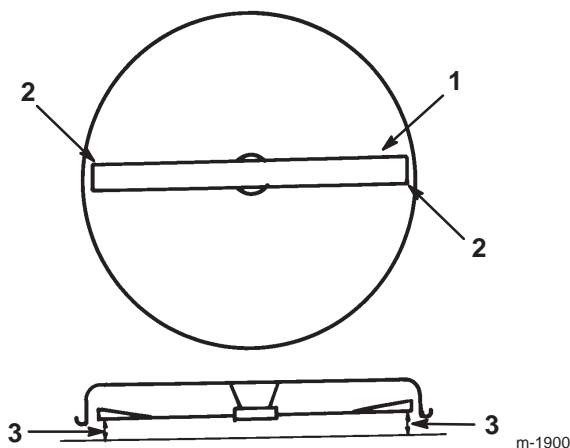

Figure 42
9. Carefully rotate the blade side to side (Fig. 42).
10. Measure between the outside cutting edges and the flat surface (Fig. 42). If both measurements are not within 3/16 in. (5 mm), adjust it; refer to steps 11 through 14.